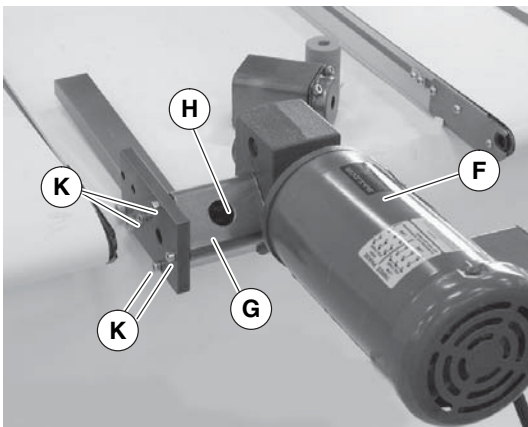

Figure 36
- Remove four (4) screws (Figure 36, item K) and remove guard tube (G) and flex coupling (H). Remove gearmotor assembly (F).